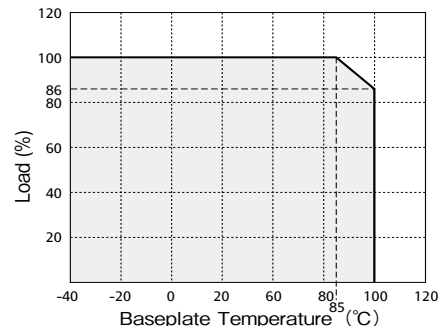

Fig.15-2 PAF700F48 Derating curve
2. There is limitation on baseplate temperature range for PAF700F48 as shown in fig.15-2.